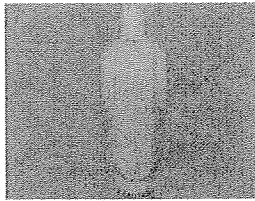

Figure 18: Covers Installed.
1. Remove the left (LH) and right (RH) hand covers on the spring arm (K). They will un-clip from each other and the spring arm. Figures 18 through 24 show step by step instructions: ►